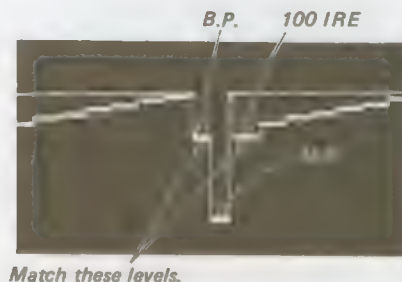

Fig. 5-91.
4. Set the BRIGHTNESS knob to MIN (before the detent point) and turn the CONTRAST knob for matching the BRT pulse and the 100 IRE level. (See Fig. 5-91.)